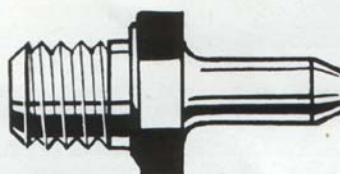

Fig. 18
Some simple tests can be made when the unit is installed which give some useful information and these tests are described overleaf. The only piece of equipment is an adaptor to fit into the hydraulic inlet port. The adaptor is shown in Fig. 18, and it can be made from a suitable pipe union ( $\frac{3}{8}$ in. x 24 UNF).
**TEST 1** Fit the completed unit to the mounting brackets and, before connecting the pipes, fit a bleed screw in the hydraulic outlet port and an adaptor shown in Fig. 18, into the hydraulic inlet port. Connect the Vacuum hose to the adaptor and remove the filter element. While the engine is "ticking over" place fingers over the air inlet and vacuum ports to determine if there is any suction at either orifice. If suction can be detected it indicates that the bores are scored or the components incorrectly assembled.